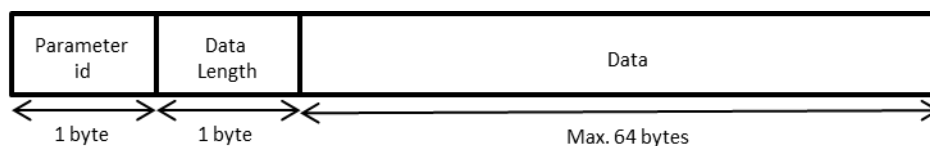

Figure 51: Data Format in Write Configuration
- The data format is shown in Figure 51: